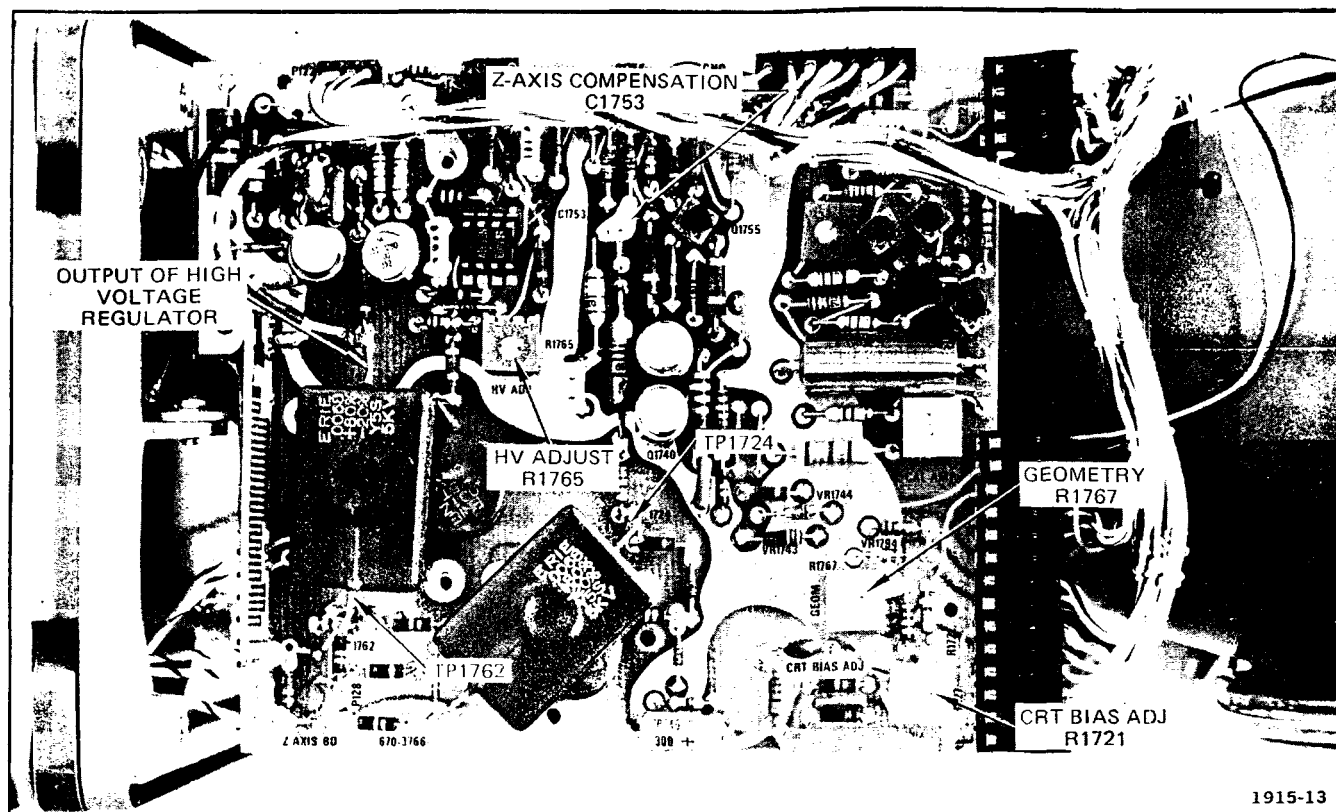

Fig. 5-2. CRT circuit test point and adjustment locations.
a. Connect the DC Voltmeter between the -3940-volt test point TP1762 (see Fig. 5-2) and ground.
c. ADJUST—High-Voltage Adjust R1765 (see Fig. 5-2) for a meter reading of -3940 volts.
d. Connect the Precision DC Voltmeter to the output of the High-Voltage Regulator (see Fig. 5-2).
a. Set the DC voltmeter to a 25-volt or higher DC range and attach the plus lead to test point TP1724 on the Z-axis circuit board (see Fig. 5-2) and the minus lead to ground.
f. ADJUST—CRT Grid Bias adjustment R1721 (see Fig. 5-2) so the spot on the CRT just disappears.
m. ADJUST—C1753 (see Fig. 5-2) for a very slight bright spot at the beginning of the magnified sweep display.